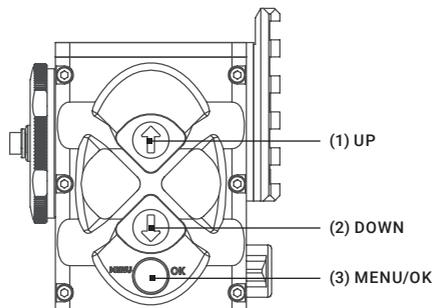

FIGURE 2-6. BUTTON CONTROL PANEL
The Cobra button control panel is shown in Figure 2-6.
Table 2-2 contains the button functions and their descriptions. The ITEM column indicates the number used to identify buttons in Figure 2-6.
To display the MAIN MENU, hold down button (3) on the control panel (Figure 2-6).